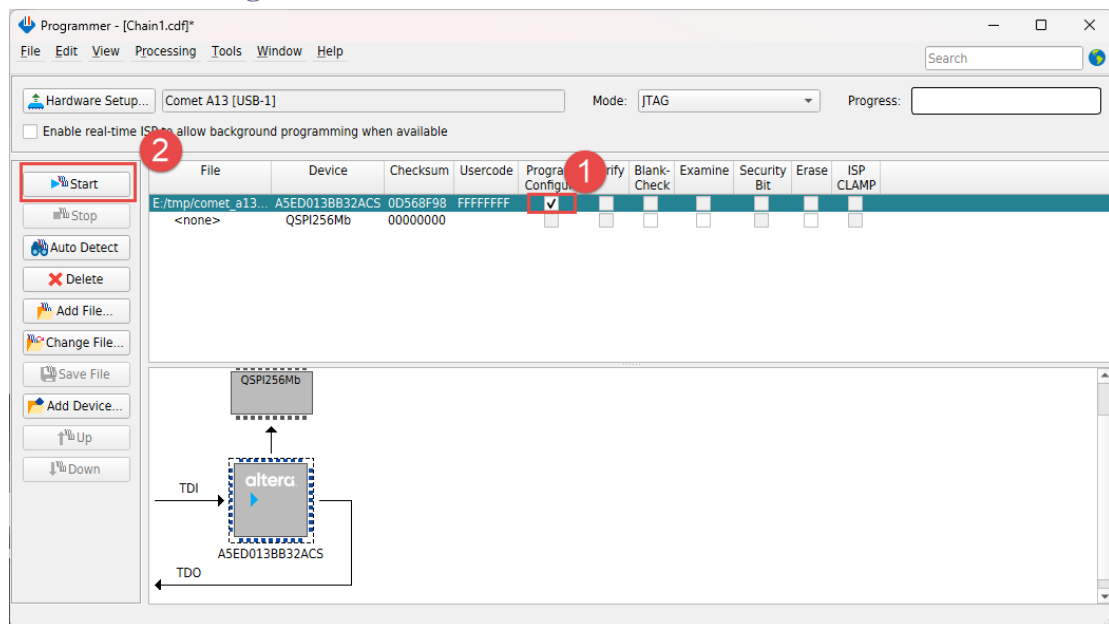

Figure 4-7 Download .sof file
- Click “Program/Configure” check box, and then click “Start” button to download .sof file into FPGA, as shown in **Figure 4-7**.